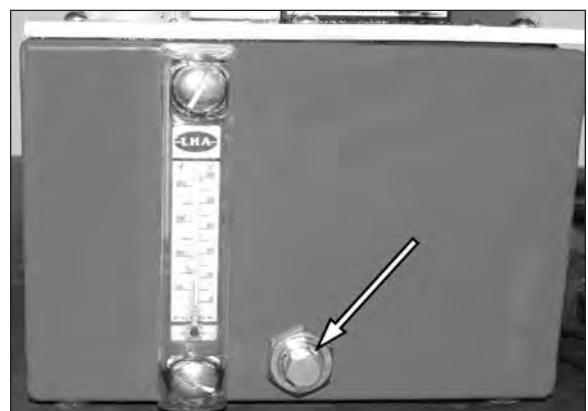

Figure 50.
1. See Figure 50. Remove the drain plug and drain the fluid from the reservoir.